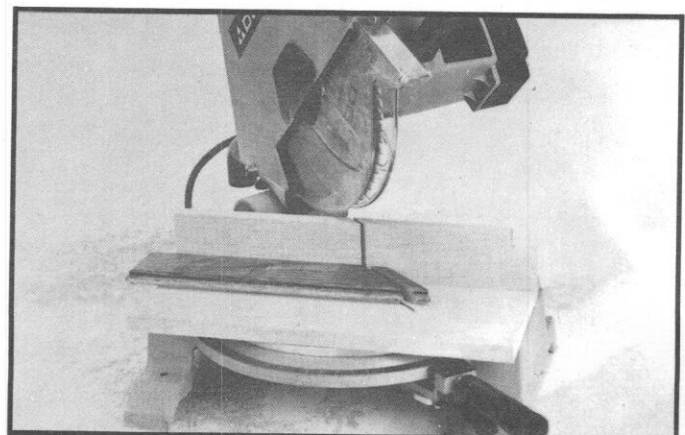

Fig. 7
7. Figure 7 illustrates making a trim cut at the 45 degree right miter position. Again notice that the cut-off piece remains in front of the fence where it can be safely removed before the next cut is made.
8. If the work piece must be at a 45 degree left angle, simply turn over the work piece and make the cut at the 45 degree right position, as shown in Fig. 7.